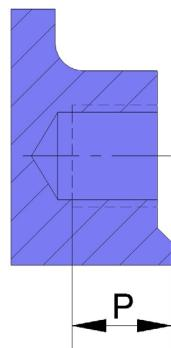

fig. 2
- The screws in the tapped blind holes will have a maximum depth (fig. 2) and will never reach the bottom of the hole. The following table (table 1) shows the maximum thread depth in the holes and the maximum torque to be applied to the flange screws: